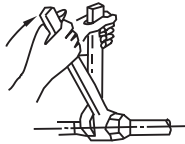

Fig. 8-3
- Put the connecting tubing at the proper position, wrench the nuts with hands then fasten it with a wrench. (Refer to Fig. 8-3)